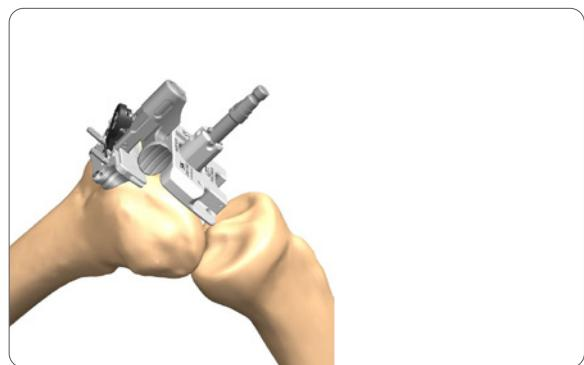

Figure 75
- Push the button on the Valgus Bridge to remove the alignment assembly from the incision site (**Figure 75**). Only the distal cutting block should remain on the femur.